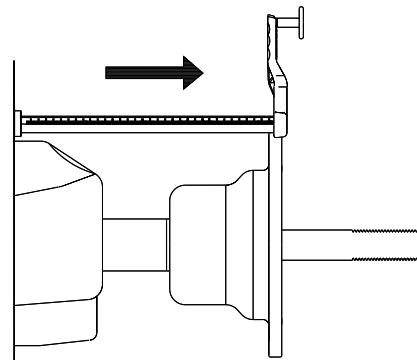

Figure 41
4. Gently pull the SAPE arm OUT until it is fully extended, Figure 41, hold it steady for about 1 second.